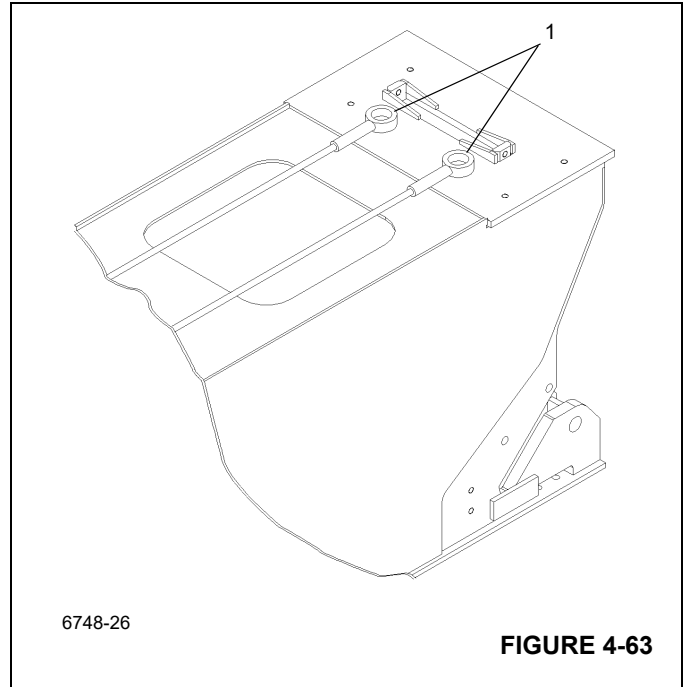

FIGURE 4-63
2. Attach both the mid-syncro cable anchor ends (1), (Figure 4-63) with the capscrews and bushings to the base end (2), (Figure 4-63) of the outer mid section.